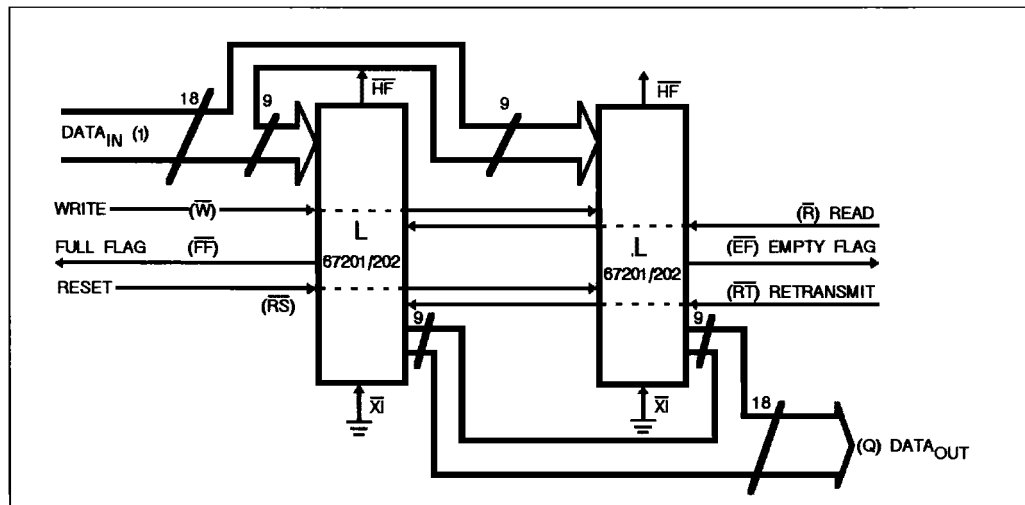

Figure 3 : Block Diagram of 512 / 1024 x 18 FIFO Memory Used In Width Expansion Mode.
one device. Figure 3 demonstrates an 18-bit word width by using two L 67201/202. Any word width can be attained by adding additional L 67201/202.
7. For Flag detection see section on Width Expansion and Figure 3.